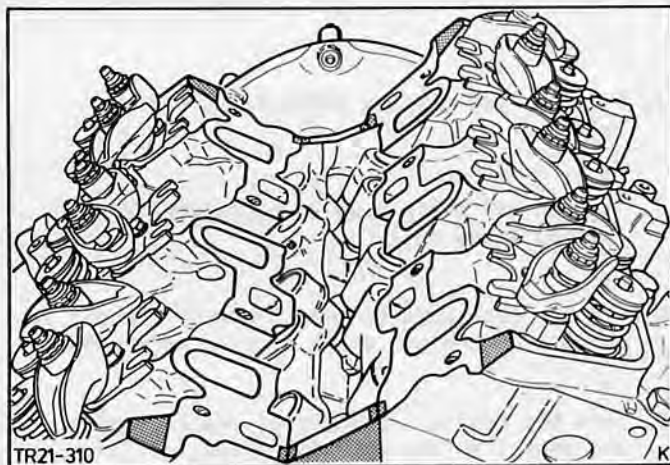

Fig.65. Coat mating faces with sealing compound.
59. Coat mating faces on cylinder block, cylinder heads and inlet manifold with sealing compound, Fig.65, and fit a new inlet manifold gasket.